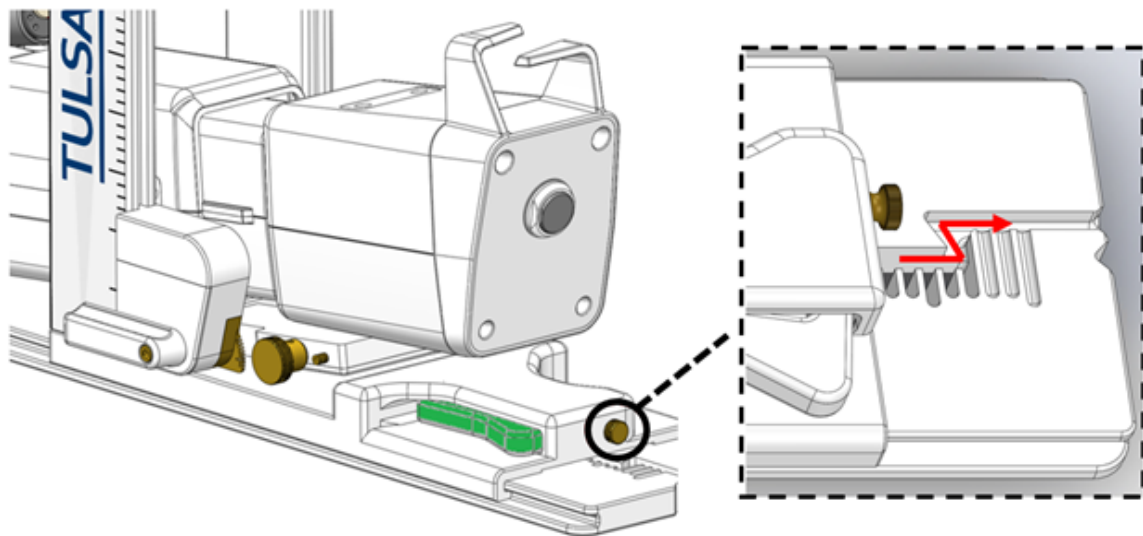

Figure 70: Removing PS from base plate
1. Remove the PS from its notched base plate by partially unscrewing the thumbscrew located on the rear of the PS base and depressing the horizontal adjustment lever through the Z channel at the rear of the PS base (*Figure 70*).